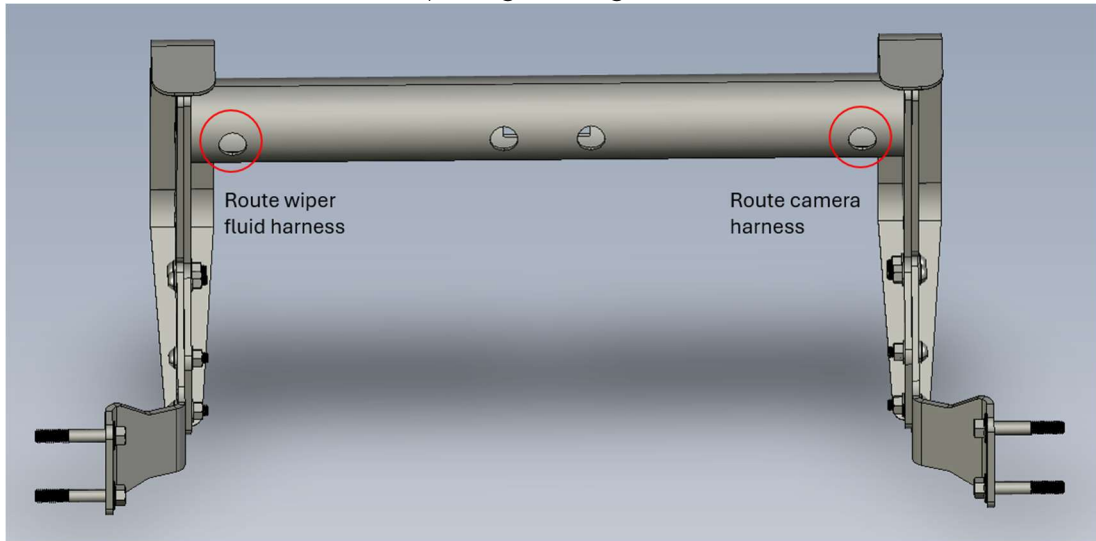

Figure 20
7. Route each harness through backside of Lower Weldment, and feed connections through front Lower Weldment camera bezel opening. See Fig. 20